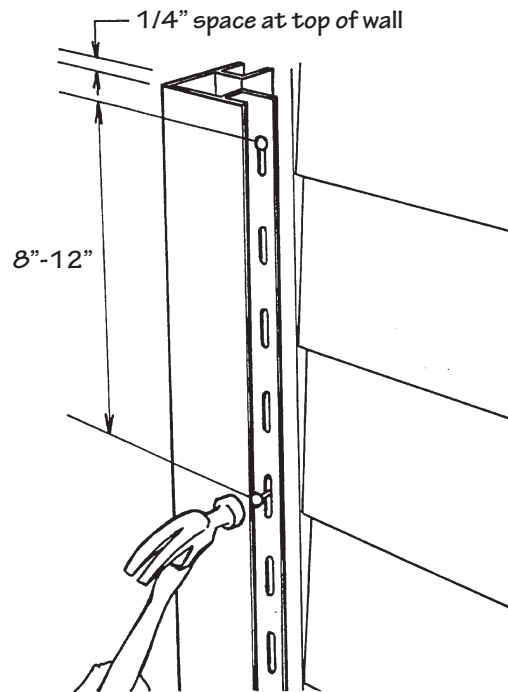

Figure 27.
- Place the corner post in position, allowing a 1/4" (6.4mm) gap between the top of the post and the eave or soffit. Position a nail at the top of the upper slot on both sides of the corner post, leaving a gap of approximately 1/32" (0.8mm) between the nail heads and the corner posts. The corner post hangs from these nails. The balance of the nailing should be in the center of the slot, 8" to 12" (203mm to 305mm) apart, again leaving 1/32" (0.8mm) between the nail head and the corner post. This allows for the expansion and contraction to occur at the bottom. The corner post should extend 3/4" (19mm) below the starter strip. Make sure the posts are plumb (i.e., vertically straight) (Fig. 27 and 28).